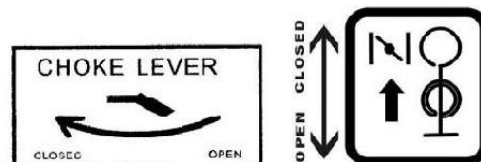

Figure 7- Choke in the "closed" position (refer to choke location)
4. Move the choke lever to the "CLOSED" position (see *figure 7*).